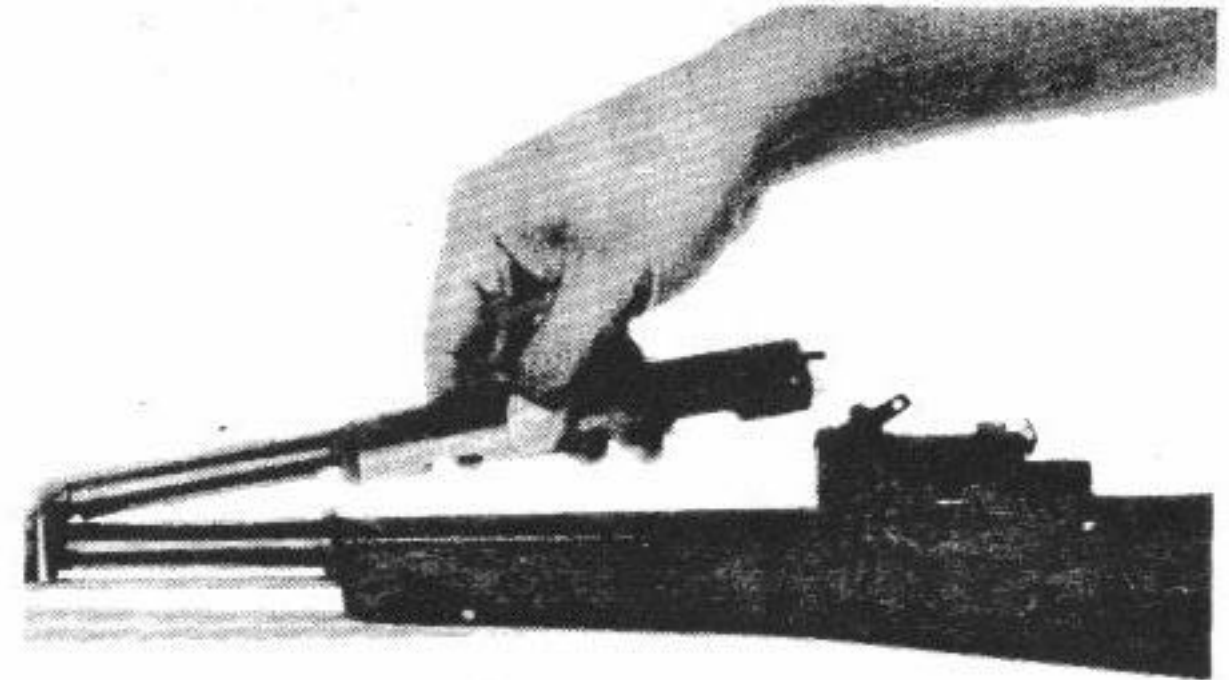

Fig. 7
Step 8: Carefully raise the handguard assembly and rock it slowly from side to side until it can be pulled away from the gas block (fig. 7).